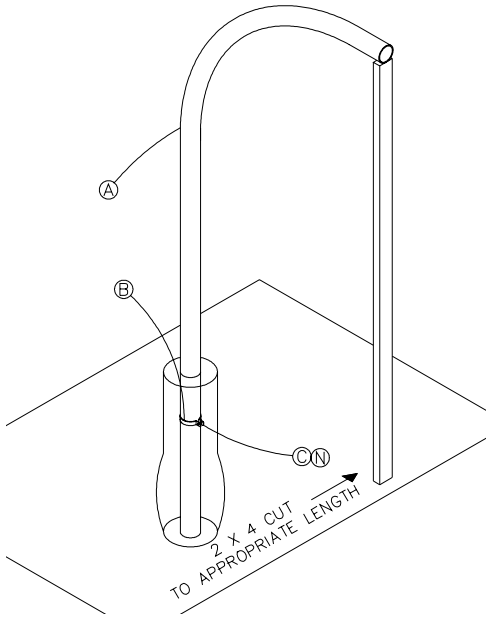

Figure 2
3. Before mixing concrete you will need to prepare bracing and plan orientation of gooseneck upright. The top of the gooseneck pole, where the crossbar attaches, will need to be 10' from playing surface. Use a 2 x 4 that is cut to an appropriate length and brace the bottom of the vertical portion of the pole at the very end. Additional bracing may be required to hold the pole in its proper position. See figure 2. Orient the top (horizontal) portion of the gooseneck pole parallel to the side lines and perpendicular to the end line.